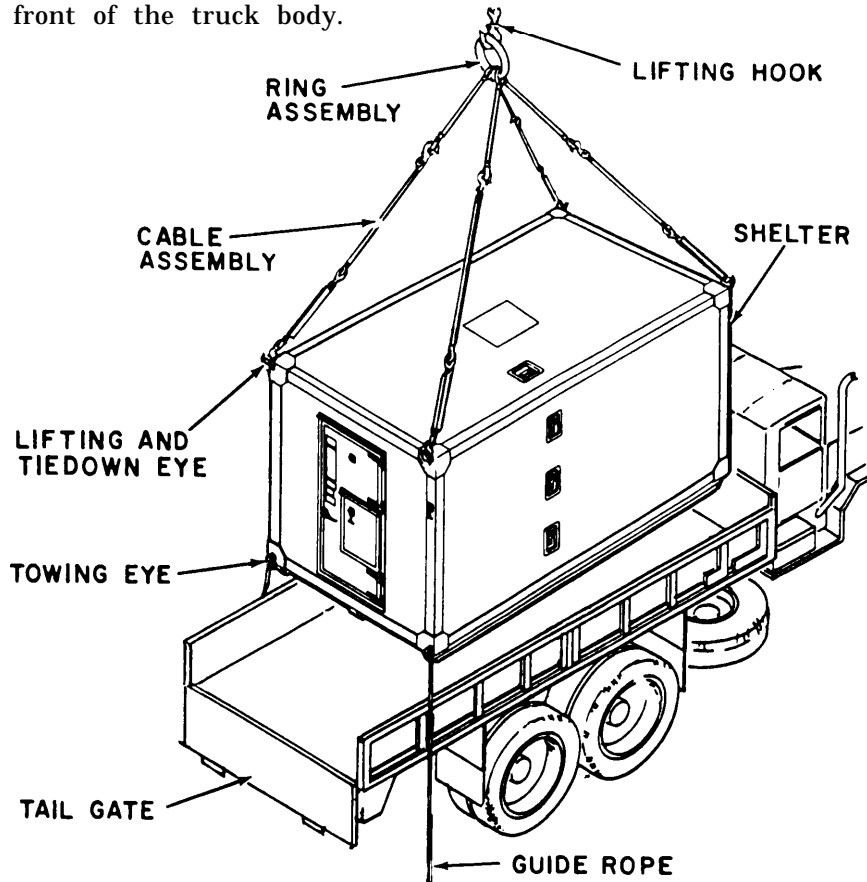

Figure 3-1. Lifting and Loading Shelter.
a. Lifting Shelter. (Figure 3-1)
- (1) Attach sling assembly to all four lifting eyes on shelter so that turnbuckle ends of cables are next to lifting rings. Be sure to use correct sling assembly. (See Appendix C).
- (2) Place sling assembly on top of shelter.
- (3) Insert lifting hook of lifting device (crane or helicopter) into lifting ring.
- (4) Tie a 1/2-inch rope, at least 15 feet long, to each rear towing eye.
- (3) Lift, carry, and place each shelter at its designated site position.
- (4) Lower the shelter into position, release lifting eyes from forklift and carefully retract the forks of the forklift from under the shelter by slowly backing up.
c. Loading Shelter onto Truck. (Figure 3-1)**WARNING**